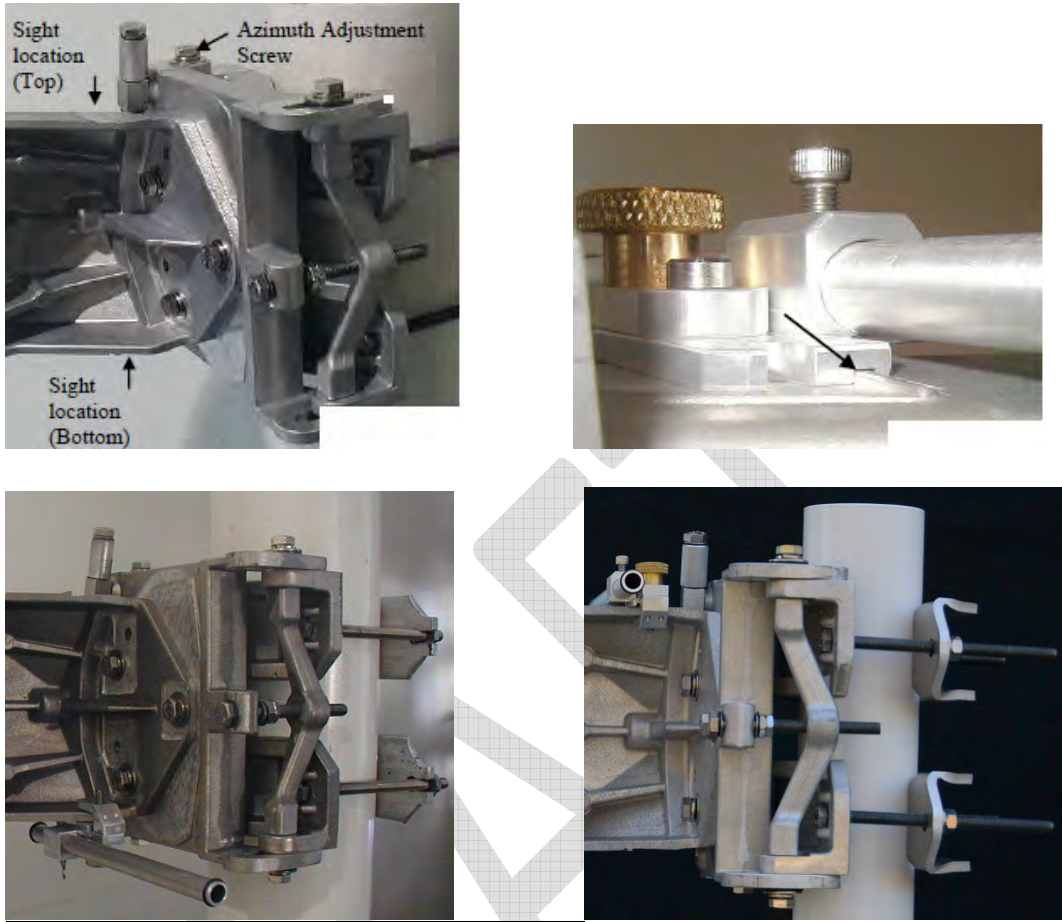

Figure 5-4: Attach Alignment Sight Tool to AireBeam G80-MX
- 1) Determine the location to install the Alignment Sight Tool. The Alignment Sight Tool can be positioned on the top or bottom of the antenna mount (see Fig. 5-4, upper left). It is best to attach sight beside the azimuth adjustment screw to ensure adequate room for use of wrenches during alignment procedure. Note that antenna mount can be used in different orientations; therefore the azimuth adjustment screw may be on the top or bottom.
- 2) Slide sight onto the mount. It is very important to make sure that the ridge on the mount is engaged with the groove on the underside of the sight clamp. If the clamp does not fit as shown Fig. 5-4 (upper right), see Sight Setup instructions further.